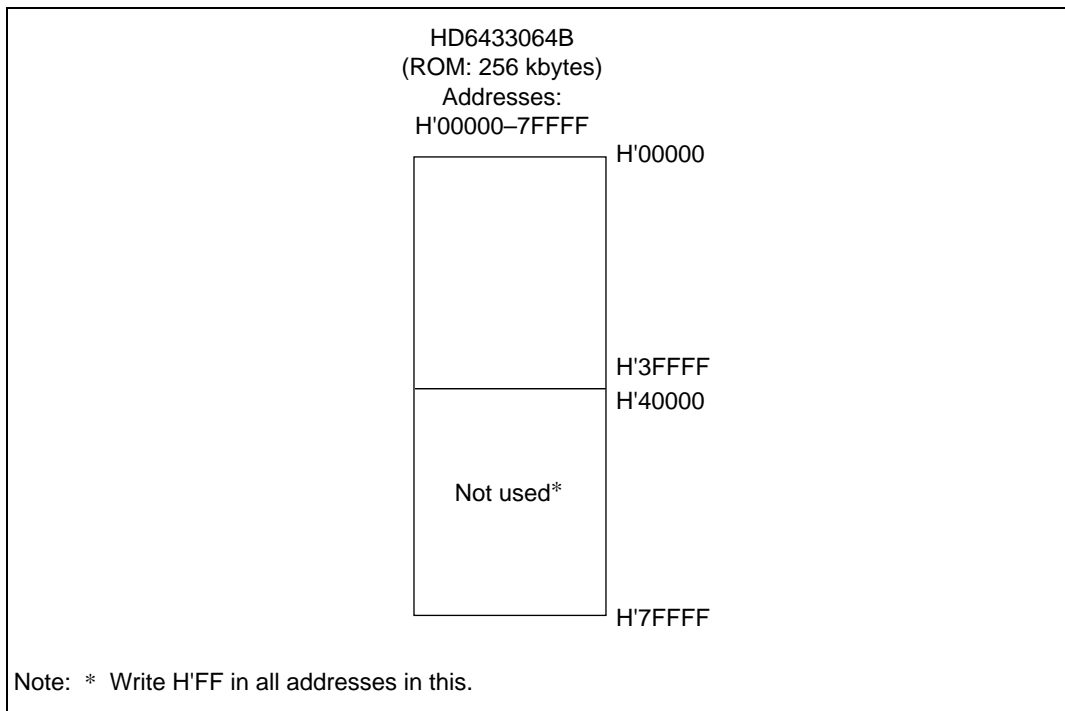

Figure 18.20 Masked ROM Addresses and Data
2. Fill all unused addresses with H'FF as shown in figure 18.20 to make the ROM data size 512-kbytes for the H8/3064 masked ROM version. This applies to ordering by means of an EPROM and by means of data transmission.